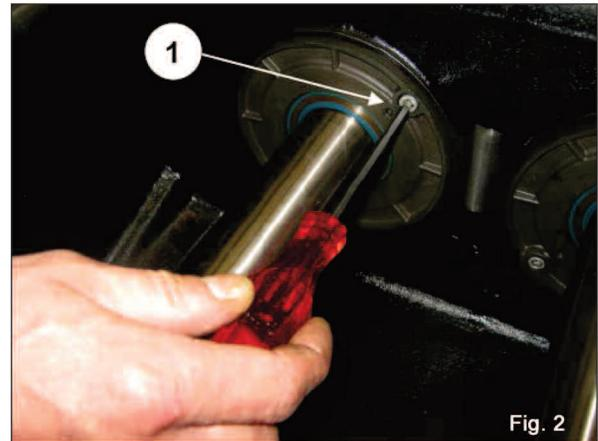

Fig. 2
Disassemble the manifold from the pump crankcase as indicated in point 2.2.1. Remove the splashguards. Undo the (2) M6 fixing screws of the three oil seal covers (1, fig. 2).